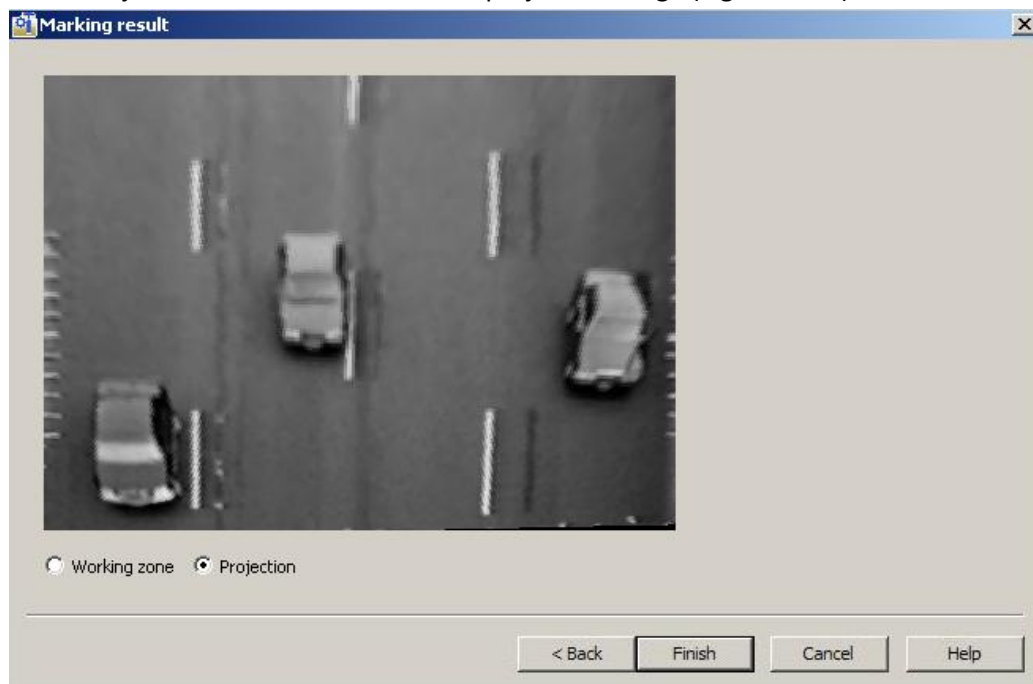

Fig. 7.4—10 Projective image
Click the Finish button to complete the setup (see Fig. 7.4—9).
11. Click «Apply» (see Fig. 7.4—4).